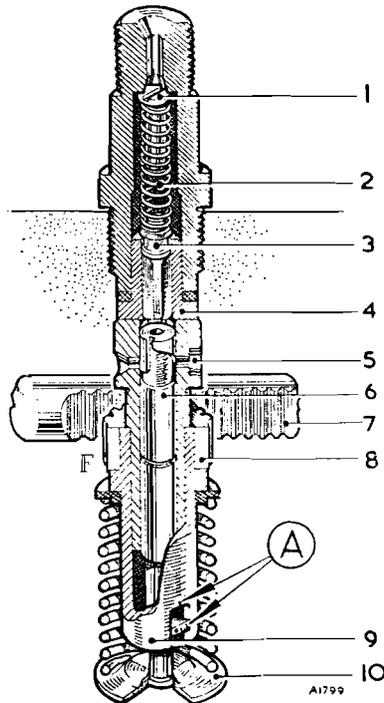

Fig. C.6
The pump has its own integral camshaft and contains the element assemblies, comprising barrels, plungers, springs, and delivery valves, each element serving one cylinder of the engine (see Fig. C.6). These components are of high-quality steel and the working surfaces are lapped together to ensure efficient operation at high speeds and pressures. Whenever servicing of the pump is carried out, therefore, it is essential that delivery valves are replaced on their correct seatings and plungers mated to the particular barrels from which they were removed.
To control the quantity of fuel delivered per stroke each plunger is provided with a vertical channel (see Fig. C.6) extending from its top face to a helical groove. By altering the position of the groove in relation to the ports in the element barrel the effective pumping stroke is correspondingly increased or decreased.
The plunger is rotated by means of a toothed quadrant (8) (Fig. C.6) clamped to a sleeve (9) having a slot which engages with the lug, or toe, of the plunger. The quadrant (8) meshes with a rack on the control rod (7) which runs the whole length of the pump and also engages the quadrants of the other pumping elements. The movement of the control rod causes all the plungers to rotate in unison.